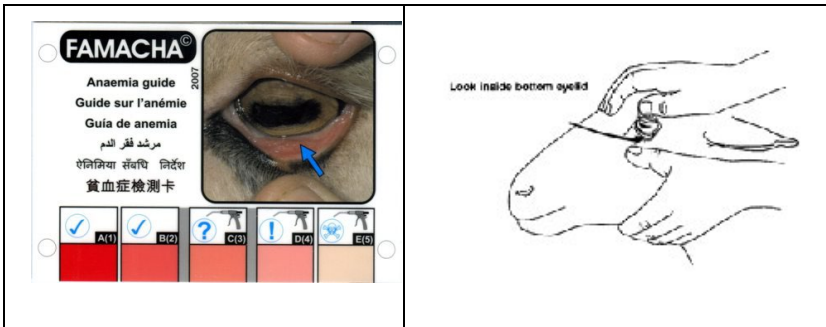

Figure 5. FAMACHA card and proper exposure of conjunctiva (lower inner eyelid).
- b. FAMACHA card (**Figure 5**). Additional FAMACHA information, included.